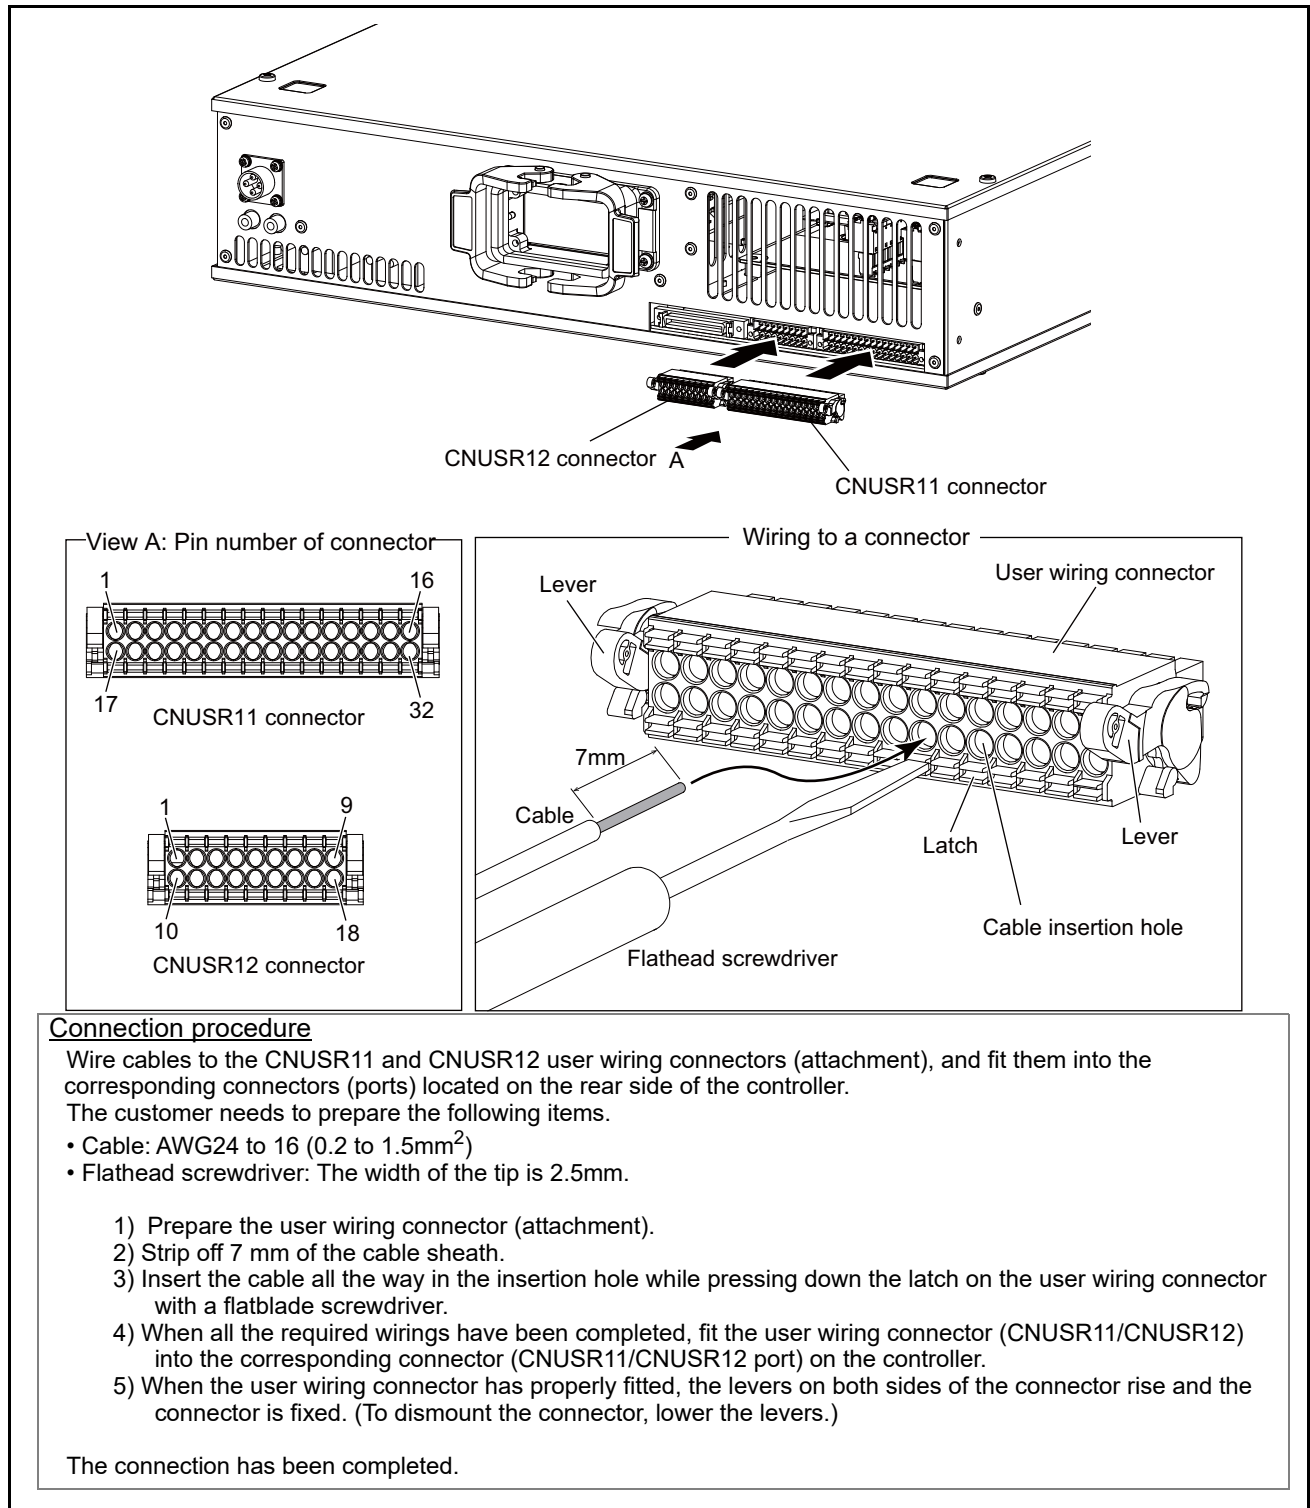

Fig.3-9: Wiring method to the user wiring connector
* Refer to Page 53 "Fig. 3-9: Wiring method to the user wiring connector" for more details about how to wire a connector.
(2) Image of how to connect the controller connector